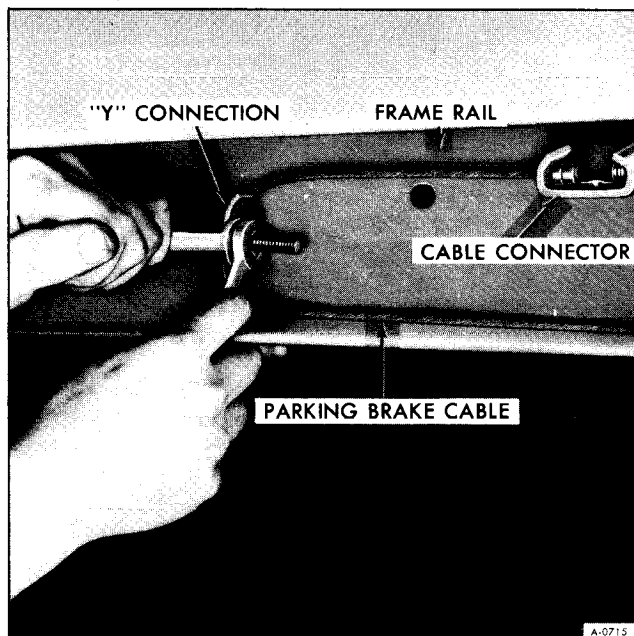

Figure 5—Loosening Intermediate Adjusting Nuts
4. Loosen lock nut at intermediate cable equalizer as shown in Figure 5 and adjust front nut to give light drag at rear wheels.